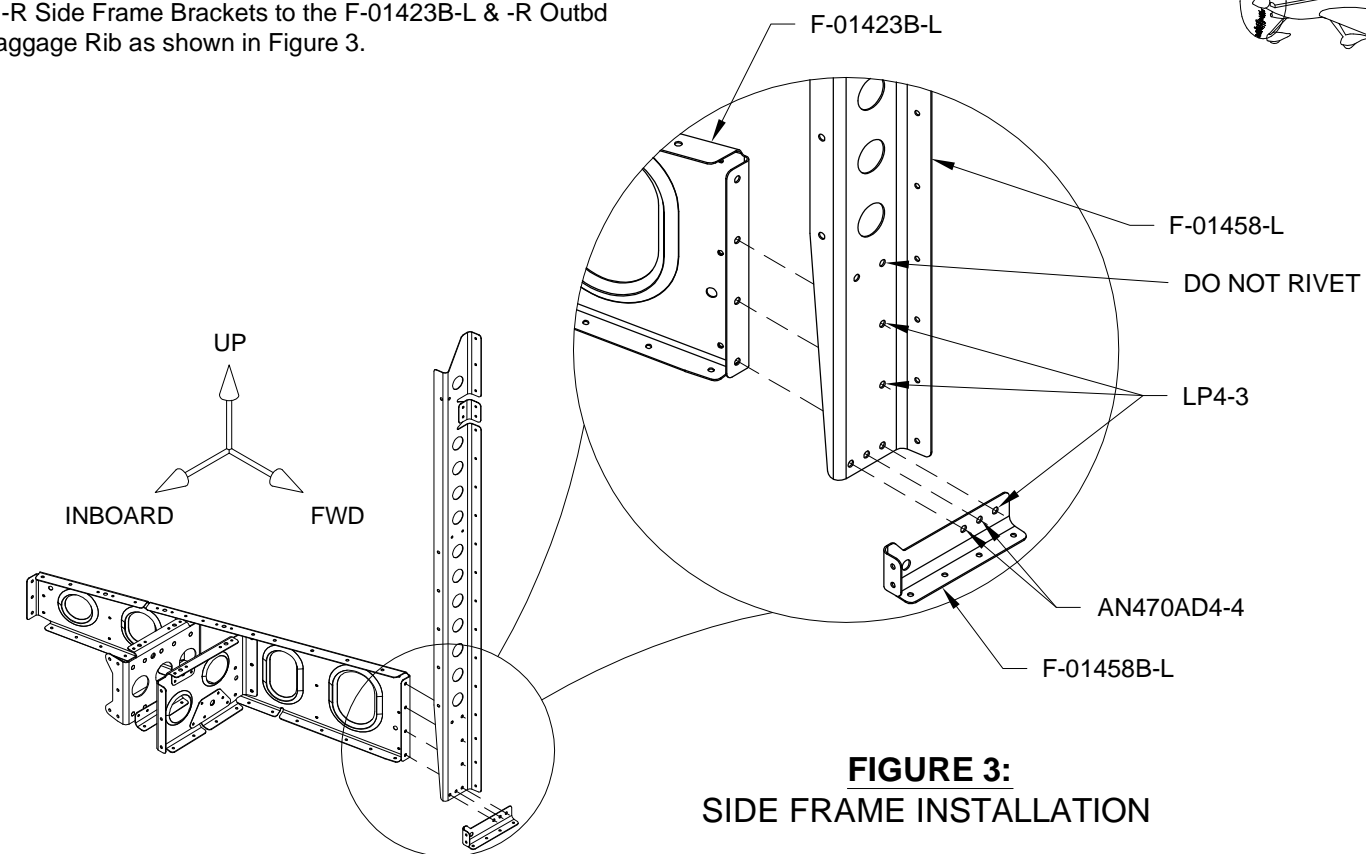

FIGURE 3: SIDE FRAME INSTALLATION
Step 6: Rivet the Side Frame Assemblies and the F-01458B-L & -R Side Frame Brackets to the F-01423B-L & -R Outbd Baggage Rib as shown in Figure 3.